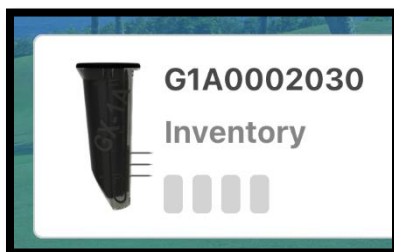
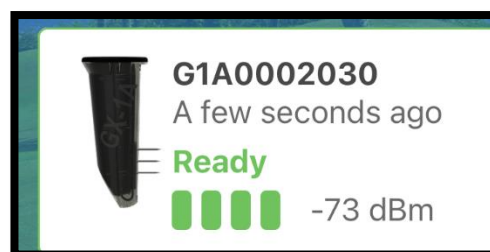

Figure 7
Figure 8
- f. If the Sensor status is “Inventory” (Figure 7), wait for approximately **1 minute** and refresh the screen by swiping down. The Sensor status will update to “Ready” (Figure 8). If the Sensor does NOT update to “Ready,” stop the installation. Skip to the **Troubleshooting** section of this Install Manual.
- g. When the Sensor status is “Ready” (Figure 8), verify the signal strength as follows: